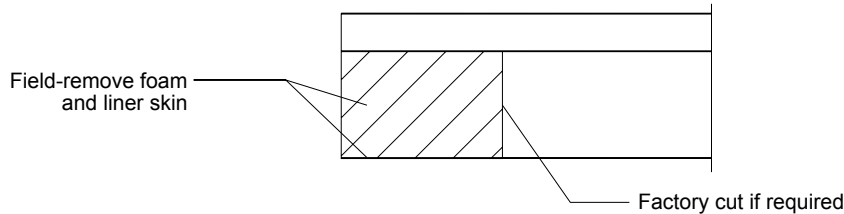

Figure 16
- 21.6 Roof panels that incorporate the laps will arrive at the jobsite with the foam and liner face in place. The liner face of the upper course panel will have a factory saw cut 3" to 6" from the end of the panel (see figure 16, below). Remove the metal and foam at the end of the panel. Carefully remove any foam that remain on the metal skin to ensure a positive air and water infiltration seal.